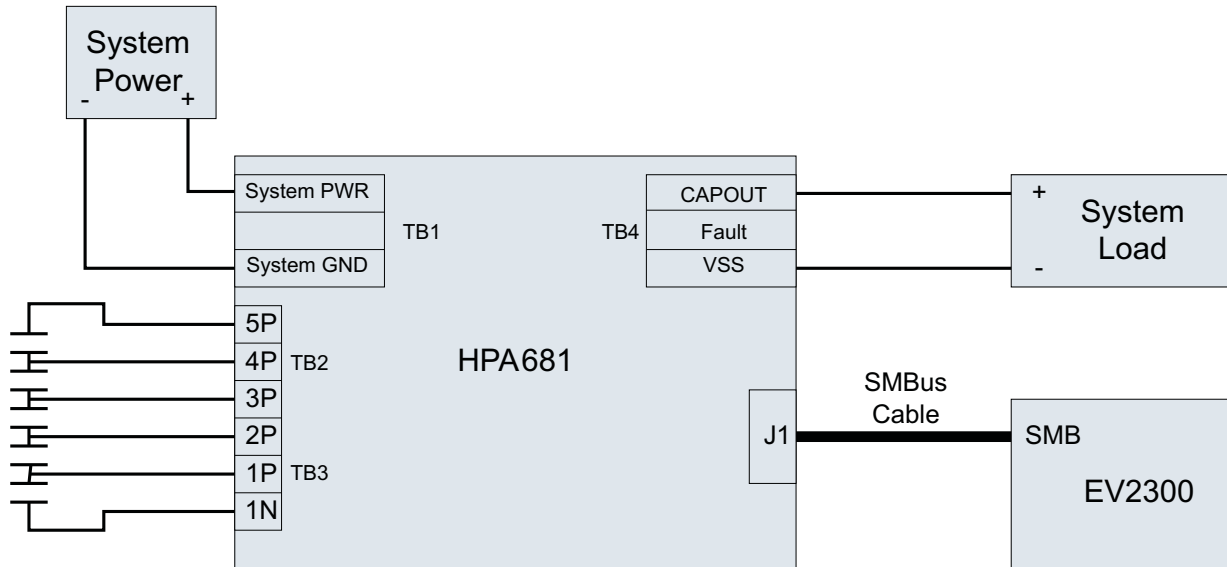

Figure 9. bq33100 Circuit Module Connection to Cells, System Load, and System Power
**Figure 9** shows how to connect the bq33100 circuit module to the super capacitors, system load, and system power.
1. Connect the most negative terminal (– terminal of cap 1) of the serially-connected, 5-capacitor stack to the 1N PIN of the TB2–TB3 connector as shown in Figure 14. (See also Figure 9 for TB2–TB3 location).